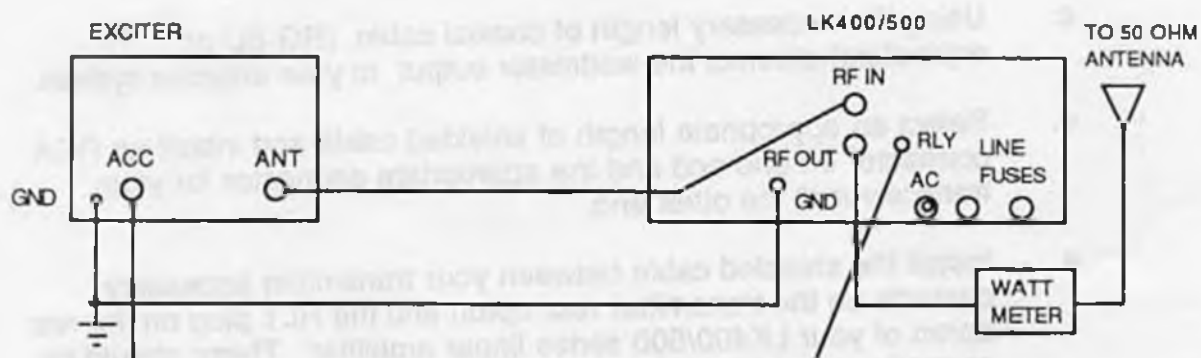

Figure 2.8.1 Cable Installation
2.8 Cable Installation (See Figure 2.8.1)